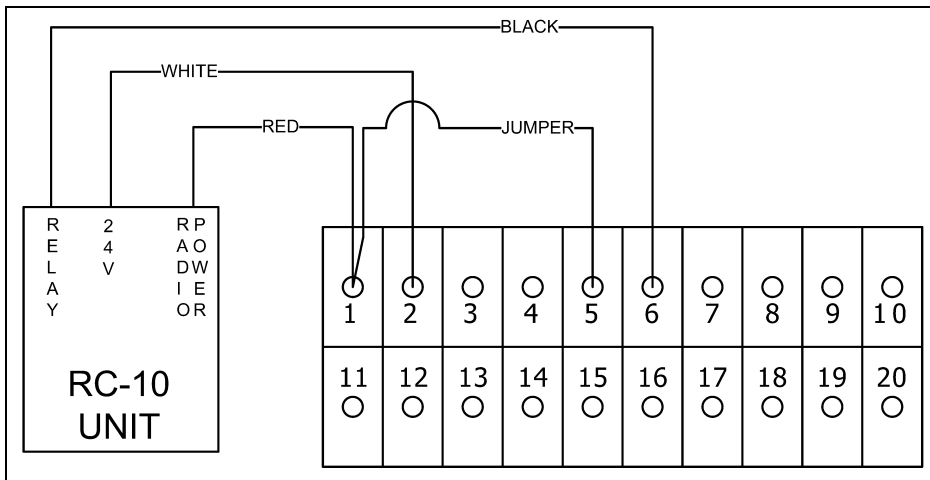

Figure 5. Contacts Connections
1. Install a jumper wire between terminals #1 and terminal #5 (see Figure 5).